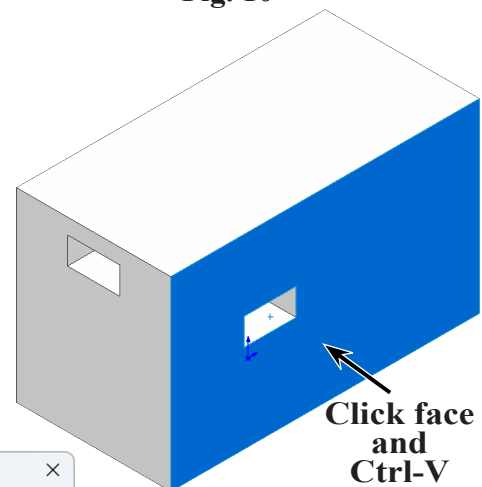

Fig. 12
Step 2. Paste **Cut-Extrude1**  on side face. To paste, click **side face** and **Ctrl-V**, **Fig. 12**.